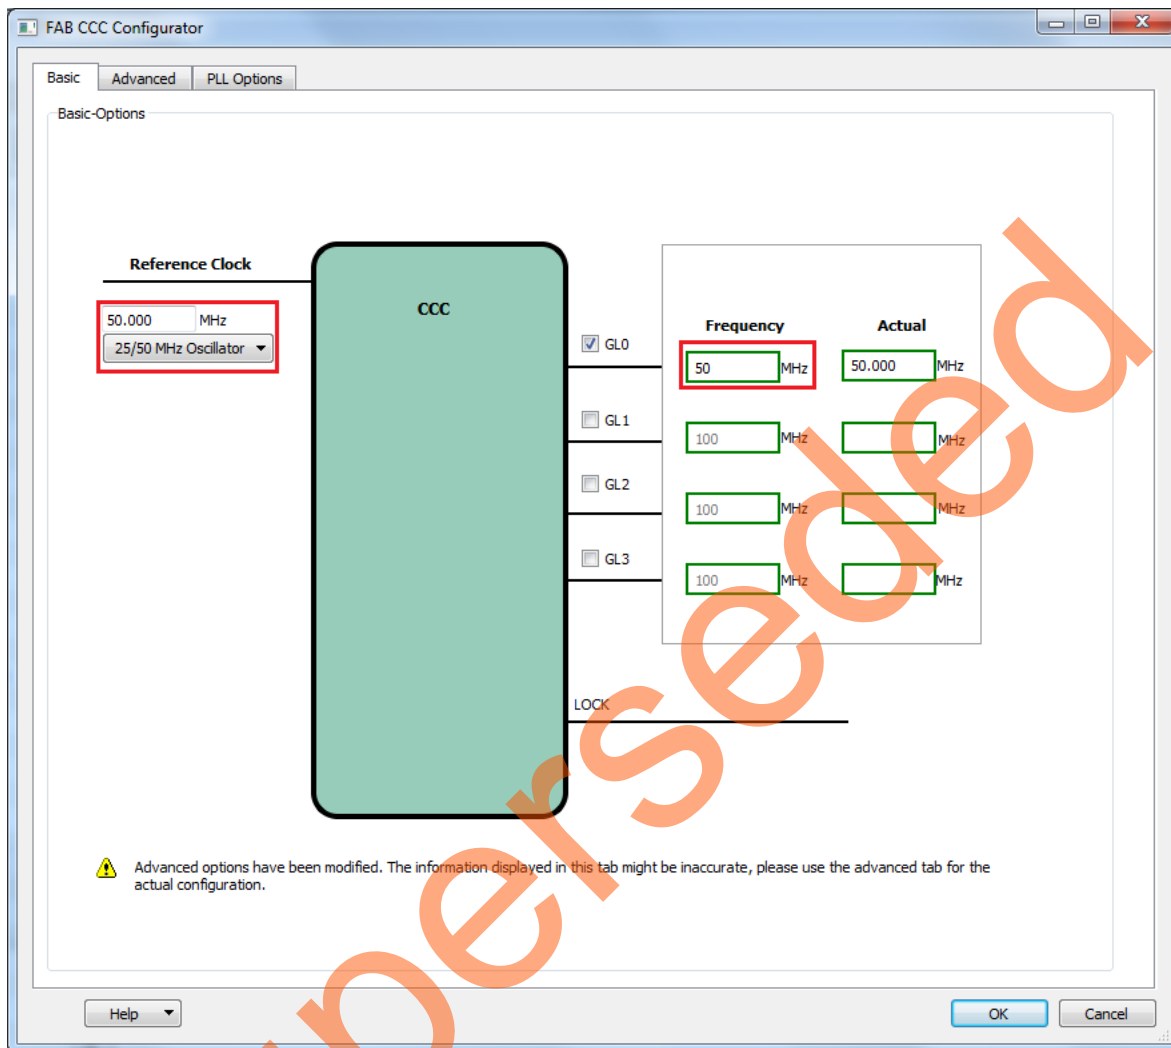

Figure 16 • FAB CCC Configurator
2. Double click **FCCC_0** to configure it. Figure 16 on page 15 shows the FAB CCC Configurator window.